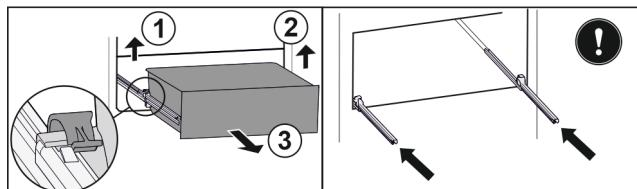

Fig. 89
- ▶ Lift left clamp and simultaneously pull drawer forwards on the left. Fig. 89 (1)
- ▶ Lift right clamp and simultaneously pull drawer forwards on the right. Fig. 89 (2)
- ▶ Remove drawer to the front. Fig. 89 (3)